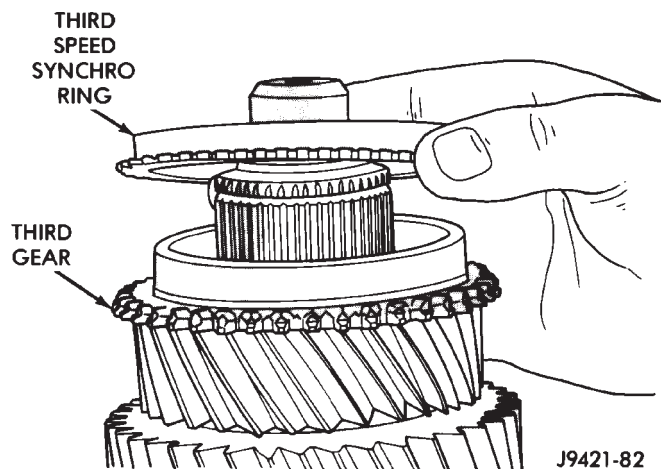

Fig. 75 Third Gear Synchro Ring Installation
(29) Install third gear synchro ring on third gear (Fig. 75).